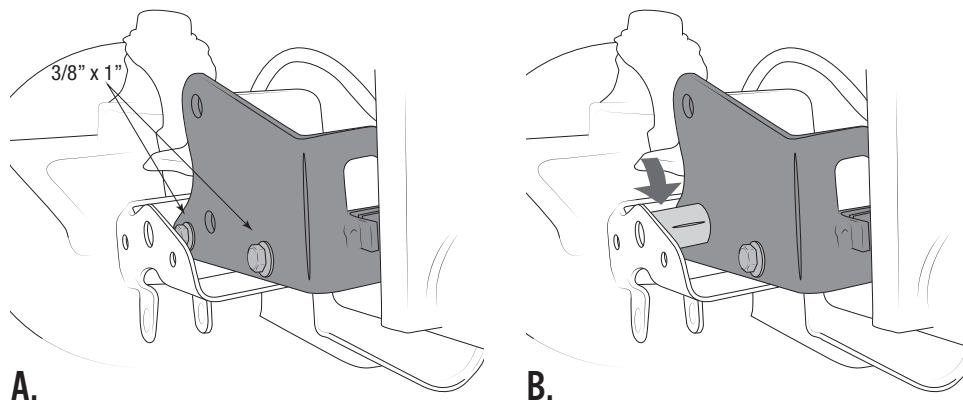

Figure 2
1. Place bracket with “half moon” cutouts inside the original front track bar bracket and over the axle tube (Fig. 2-A). Insert two of the supplied 3/8” x 1.0”L bolts and washers through the small holes in the bracket and the corresponding holes in the stock bracket, then add nuts and hand tighten.
3. Insert the supplied spacer tube between stock track bar bracket and new bracket (Fig. 2-B), lining it up with the original track bar bolt hole. (This may require slight prying or tapping with a hammer.)